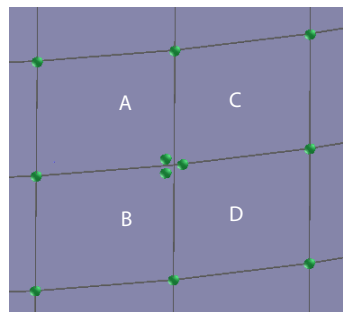

Figure 5.57 After splitting the shared node among Group 1 (Element A), Group 2 (Element B) and unselected elements (Elements C and D).
- Note: It is important to understand that if a node to be split is shared not only between elements belonging to Group 1 and Group 2, but also between some more elements belonging to neither group, then it is split among Group 1, Group 2 and the rest of elements. For example, let us assume a node is being shared by four elements - A, B, C, and D. See Figure 5.56. If A is added to Group 1, B to Group 2 (C, D are not added to any group), when the shared node is split, *Coustyx* splits the node into 3 different nodes: node 1 for Group 1 (Element A), node 2 for Group 2 (Element B), and node 3 for the rest of elements that belong to neither groups (Elements C and D). See Figure 5.57.